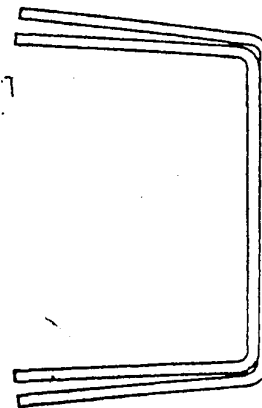
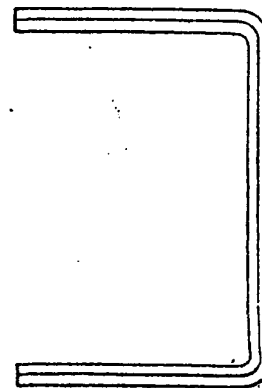

Figure 2A
Figure 2B
5. Now it's time to recondition your frame rails. Your frame is two layers thick in the front area. During the past 40 some years, rust forms between the layers of the frame rail flanges and swells, causing them to separate. This causes the rail flanges to actually open up, as in Figure 2A. Your rails will probably look similar to this. It is necessary to squeeze the two layers back together, using a vice-grips or hammer and block. Then, using a large C-clamp, bend both flanges back together so the rail is square again. (See Figure 2B.) It does not need to be perfect for the entire length, but it should be close in the areas where the new crossmember and spring towers mount. The better you can make the rails in this step, the easier it will be to weld in the new components. Also, grind off and weld in the rivets on the top of the frame rails.